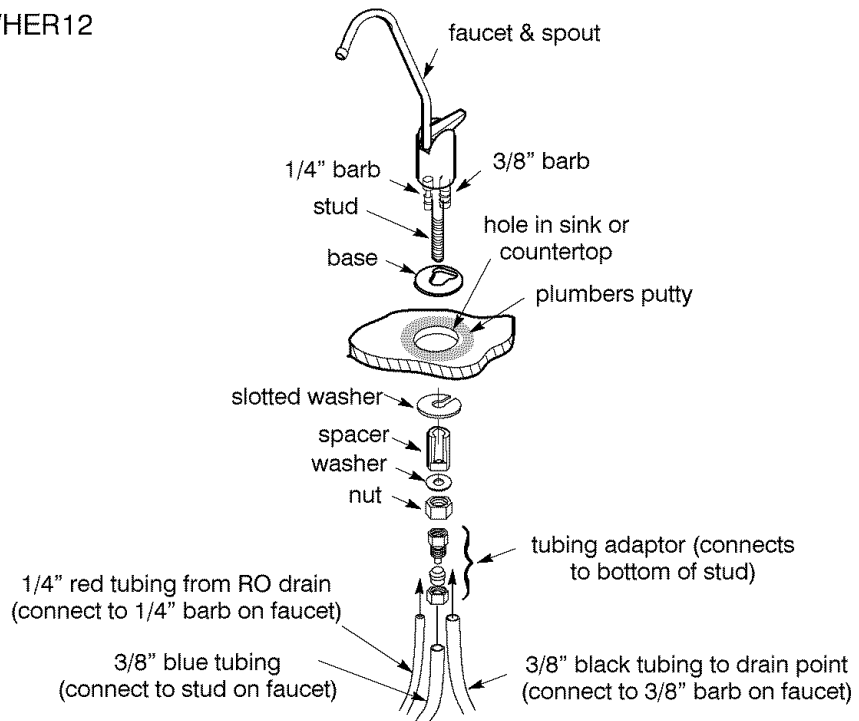

Figure 6
3. Place plumbers putty around the drilled hole (Figures 6 and 7) to prevent water leakage around the base of the faucet.